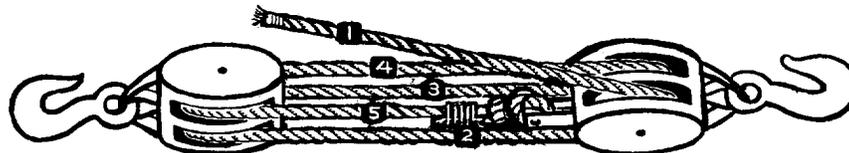

FIGURE 3.—Reeving—double and double.
- a. Lay blocks about three feet apart, hooks out, so one is horizontal and the other vertical (see figure 3).
- b. To reeve, follow sequence in figure 3.
- c. Complete steps in figure 3.